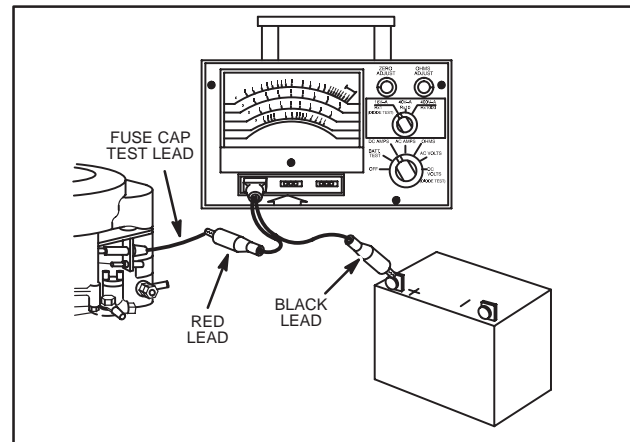

Fig. 747 – TESTING ALTERNATOR OUTPUT
- Attach RED test lead clip to fuse cap test lead, Fig. 747.